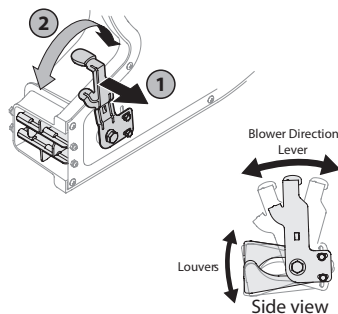

Figure 4
1. Pull the lever out and away from the blower. See Figure 4.